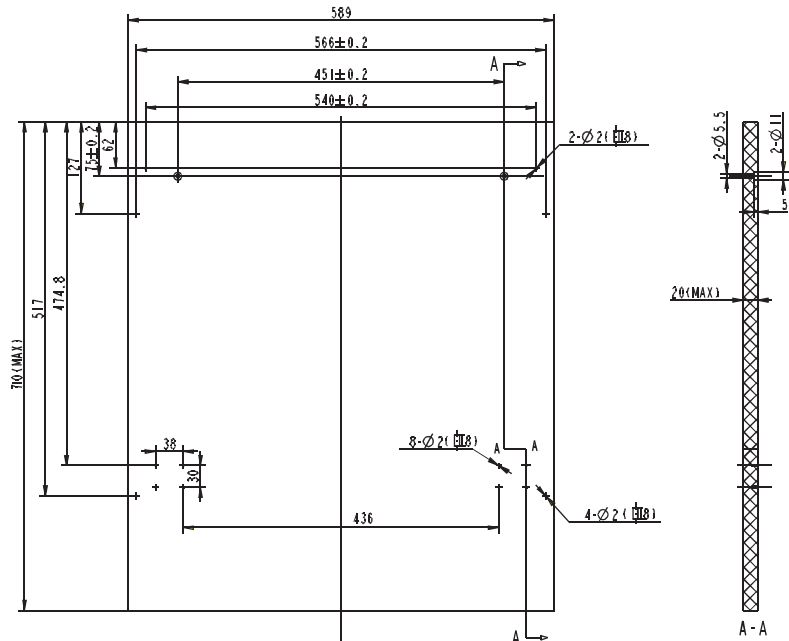

Figure 3a. BI 60 KASKATA Light S.
1. The decorative wooden panel to be attached to the door of the dishwasher shall be prepared according to drawings as shown in Figures 3a and 3b.